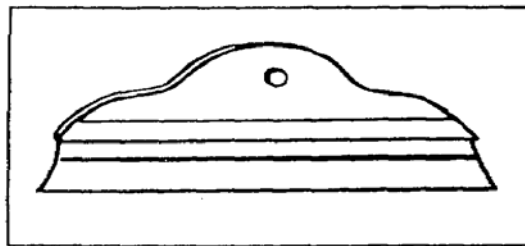

Figure 3-21. Paint guide
e. **Paint Guide.** Use a paint guide (Figure 3-21) to help with painting in tight corners and to keep paint off ceilings and trim. Be careful not to get paint on the back of the paint guide.